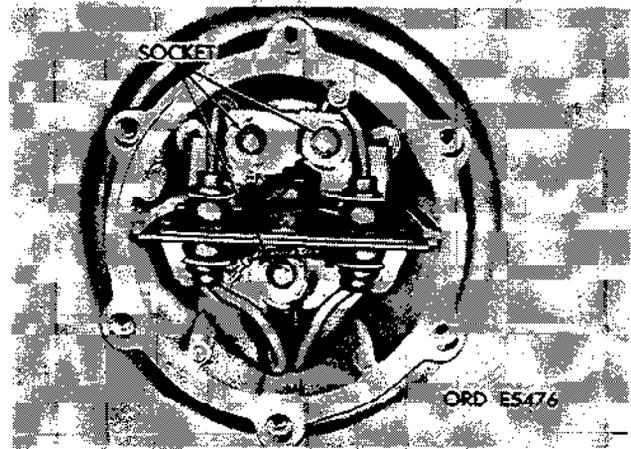

Figure 2-207. Remove lamp, (M151, M151A1, M151A1C and M718).
(2) Press lamp in and turn counterclockwise and remove lamp (see fig. 2-207). Install new lamp. Install door and screws.